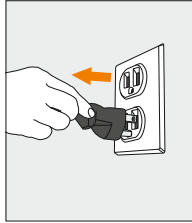

Figure 27
1. Unplug and approach the cooler from the front (Figure 27)